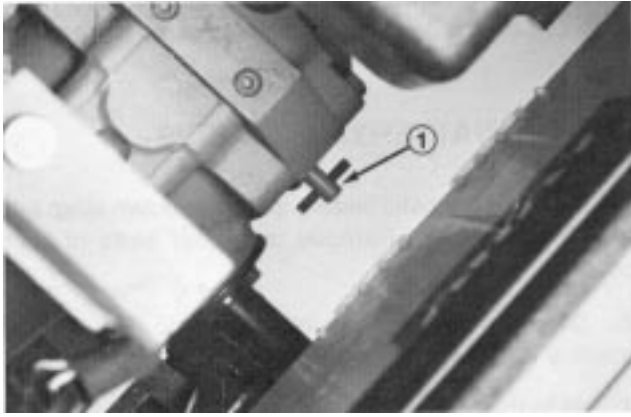

Figure 23
1. Reach under traction unit and rotate by-pass valve (Fig. 23) 1/2 to 1 turn counterclockwise. Opening the valve opens an internal passage in the transmission, thereby by-passing transmission oil. Because fluid is by-passed, traction unit can be moved without damaging the transmission.